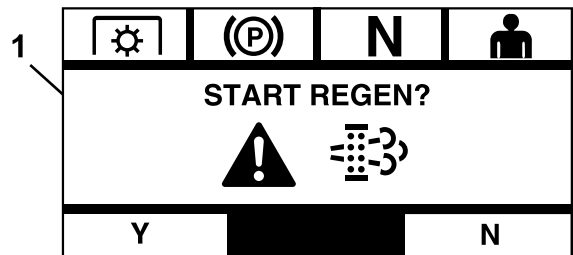

Figure 13
- If you select Y (yes), the module prompts you to start the regeneration process (Figure 13).